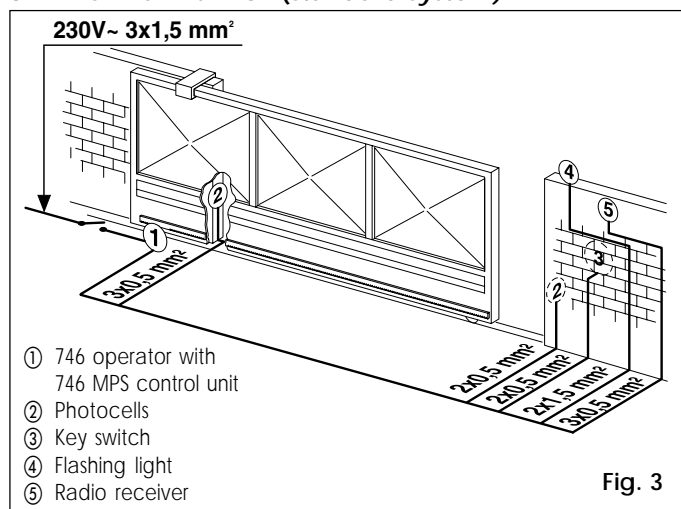

Fig. 3
- 4) Lay the electrical cables for connection to the accessories and the electricity supply as shown in Fig. 3. For ease of